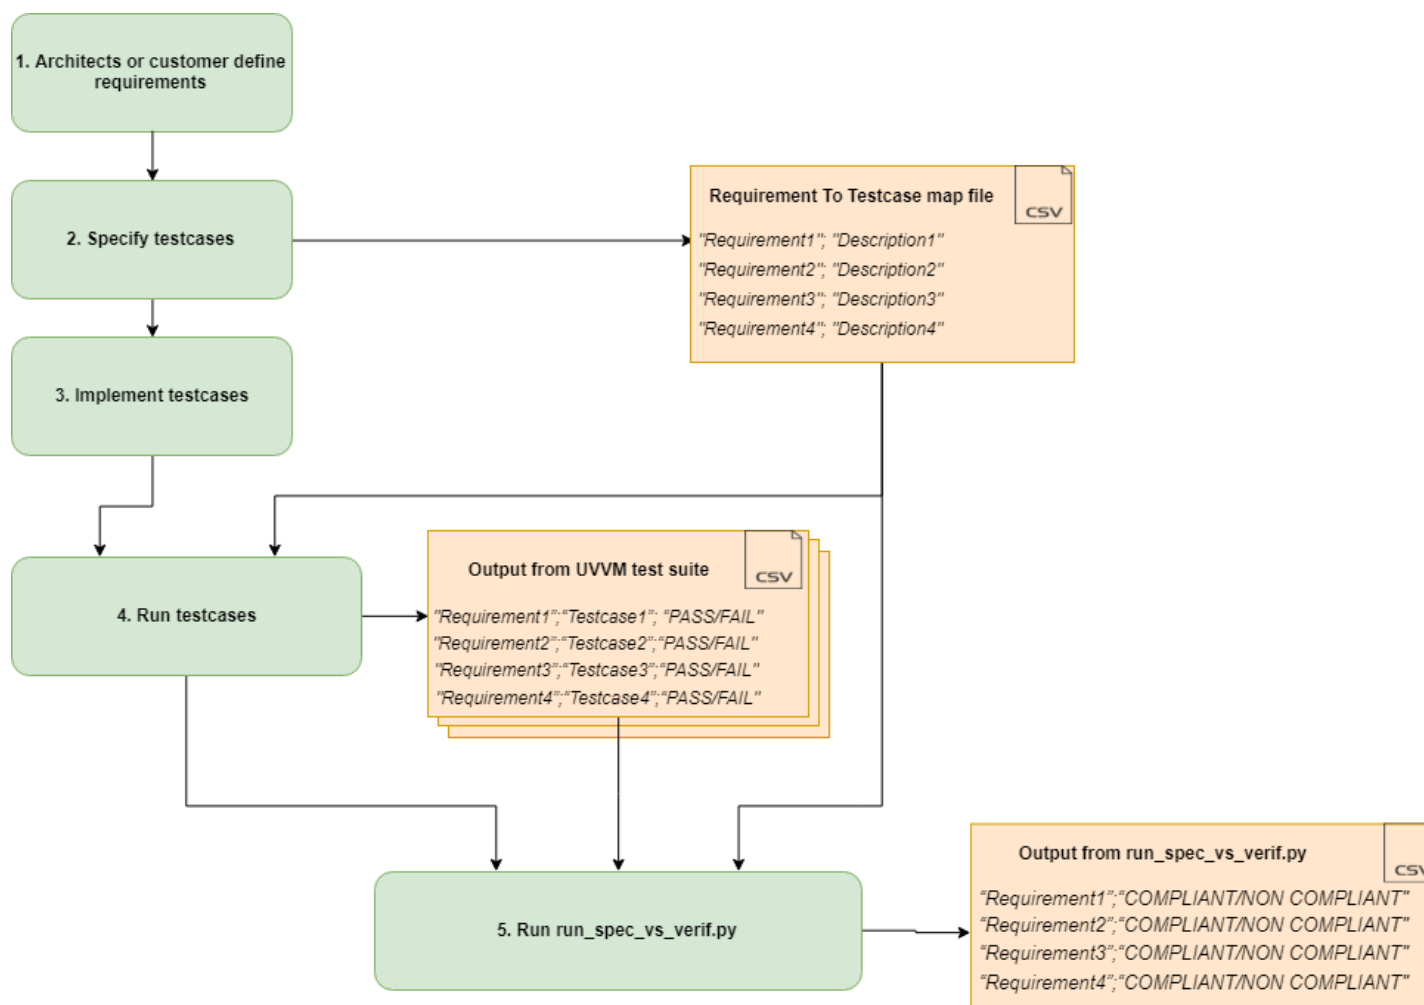
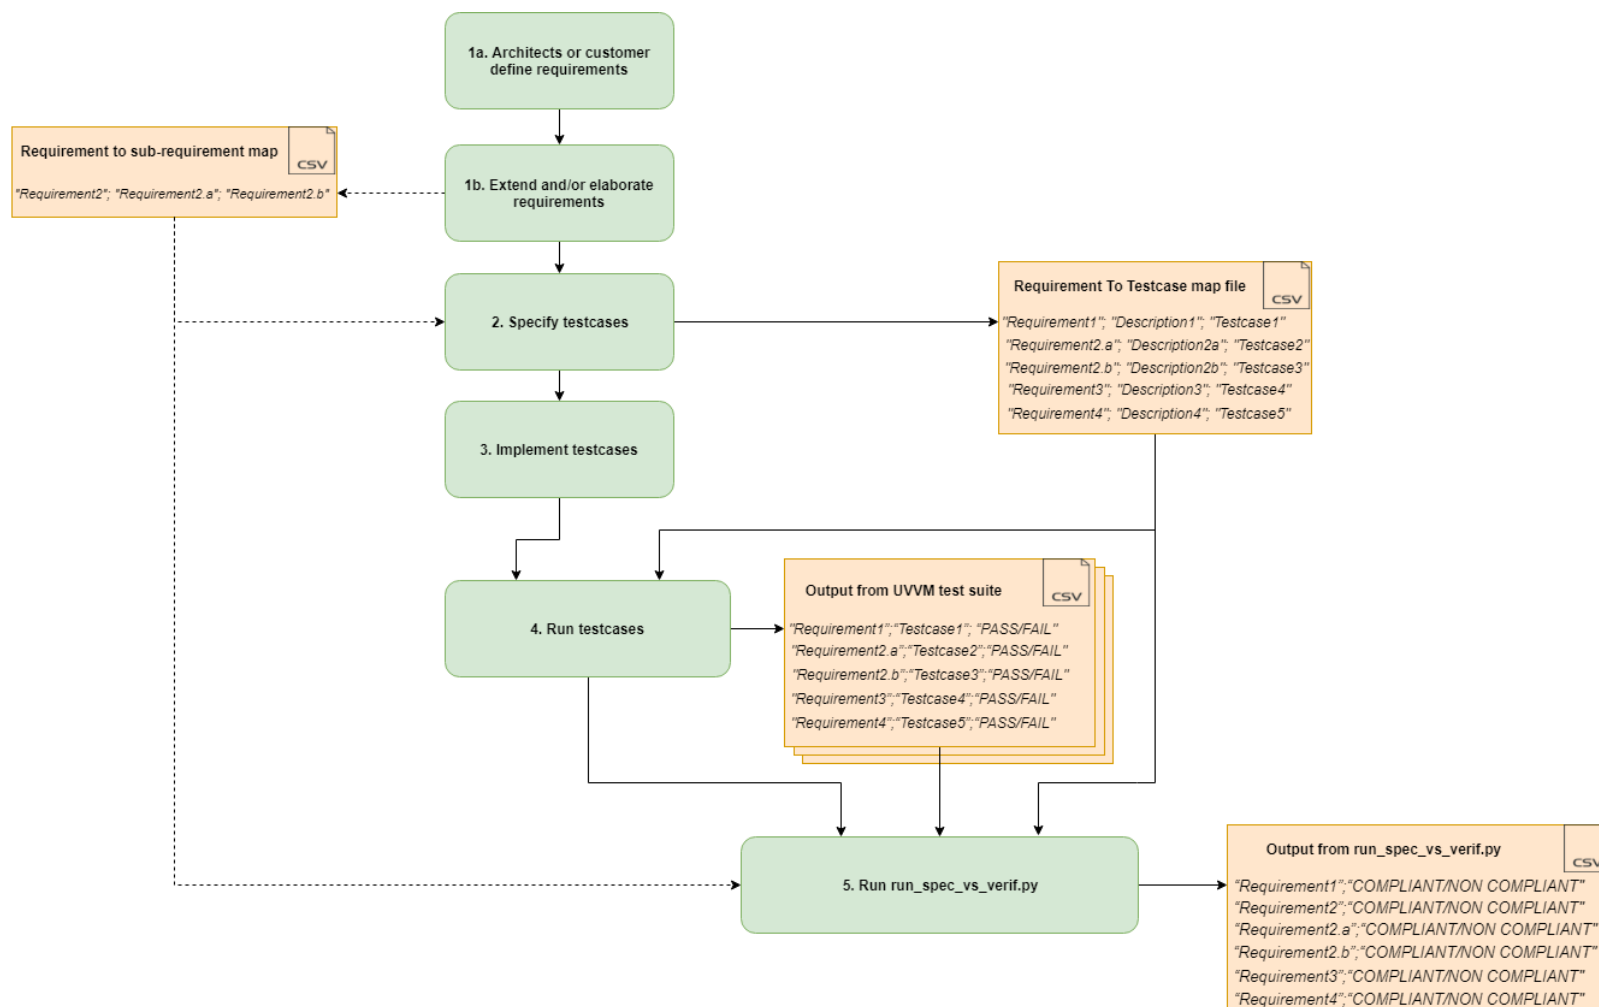

Figure 1 Basic Specification vs Verification Typical Usage
Figure 2 Advanced Specification vs Verification Typical Usage
The UVVM Specification vs Verification Matrix support component is an extension to the UVVM package, consisting of a set of new VHDL methods for logging requirement compliancy and a post-processing Python script for generating a report based on a requirement specification and the simulation results. Figure 1 shows an example of basic Specification vs Verification Matrix usage. Table 4 gives a description of each step in Figure 1. See the front-page of this QuickRef for a description of the input-files used in each step.
2. Specify testcases	In this step the designer will specify testcases that will cover all the requirements specified in the previous steps. As part of this step, the designer will create a CSV-file with a mapping from requirement to testcase, as shown in Figure 1. More information on this CSV-file can be seen on the first page of this QuickRef. Note that the "Test case" input is optional unless the shared_req_vs_cov_strict_testcase_checking variable is set true, as described in Table 9.
In some cases, the designer would want to extend or even split up broad requirements in order to have simple, testable requirements. This is allowed in the specification vs verification matrix concept by extending step 1, as illustrated by Figure 2. In this case, a new CSV file with a mapping from (broad) requirement to (sub) requirements is created as part of step 1b, and used later on when running the Python script in step 5. A description of how to use this feature is documented in Table 11.
The final step of the Specification vs Verification usage shown in Figure 1 and Figure 2 is to run a post-processing script to evaluate all the simulation results. This script is called *run_spec_vs_verif.py*. This script requires Python 3.x. The script can be called with the arguments listed in Table 12 from any command line.